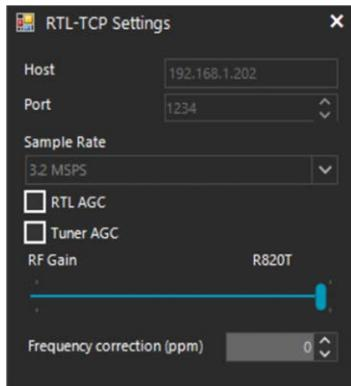

Figure 24.19: Enter the IP address.
- Click the **Configure Source** (Cog wheel icon) and enter the IP address of your Raspberry Pi in field **Host** and set the RF gain (Figure 24.19).